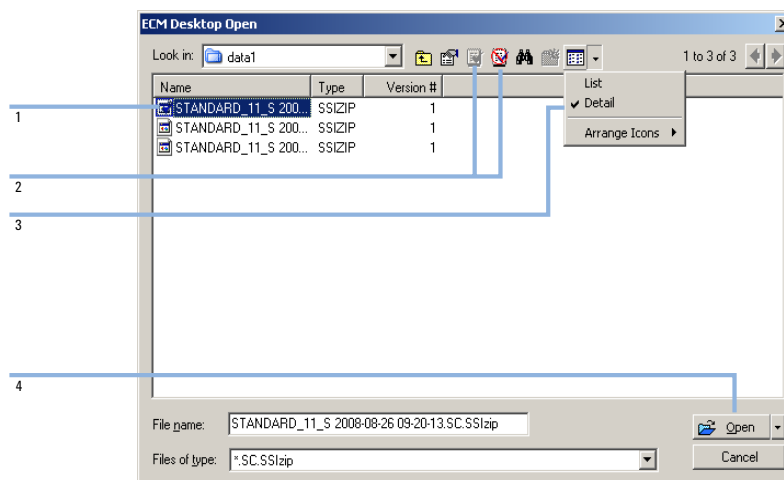
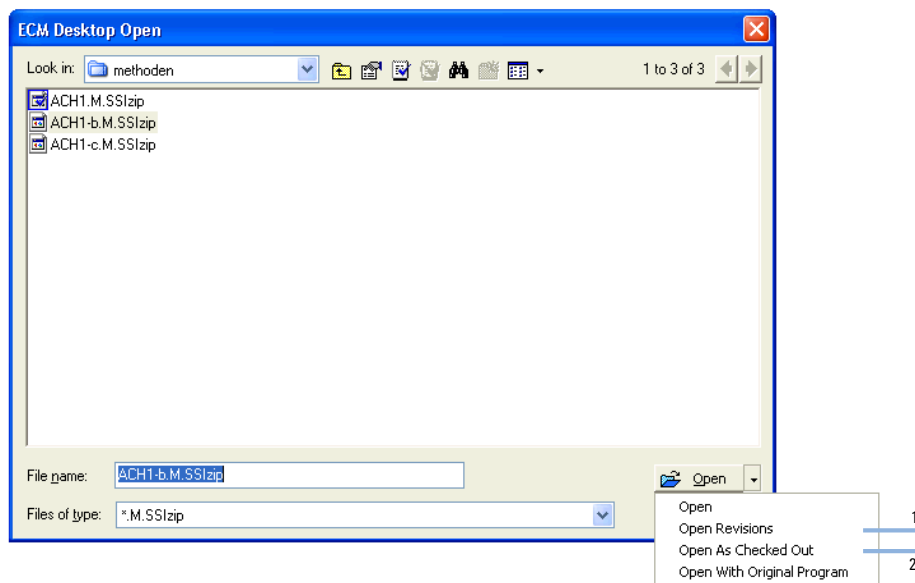
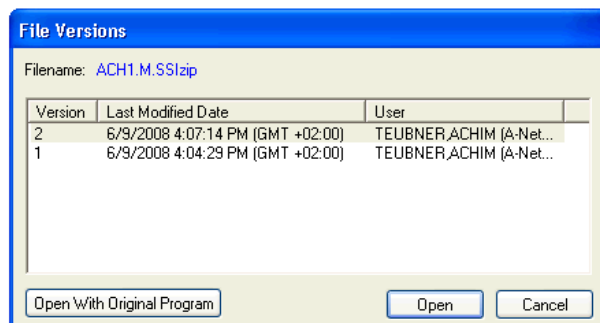

Figure 15 ECM Desktop Open dialog
Figure 16 Open Revisions command
Figure 17 File versions dialog
If the item is checked out, it is marked with a blue or red icon (see Figure 15 on page 54, marker 1):
To check out or check in an item, you can use the according icons available in the **ECM Desktop Open** dialog (see Figure 15 on page 54, marker 2). With these icons, you can only check out the latest version of an item.
In order to see more details regarding the type and version of the available items, select the **Detail** view (see Figure 15 on page 54, marker 3). To open an older version of an item, select the **Open Revisions** command from the **Open** menu (see Figure 16 on page 55, marker 1). This opens the **File Versions** dialog, where all available versions of the item are listed (see Figure 17 on page 56).
- 3 Select **Open** in either dialog to download the item to ChemStation. In order to prevent other users from modifying the item, it is possible to select the **Open As Checked Out** command to mark the item as checked out from ECM (see Figure 16 on page 55, marker 2).